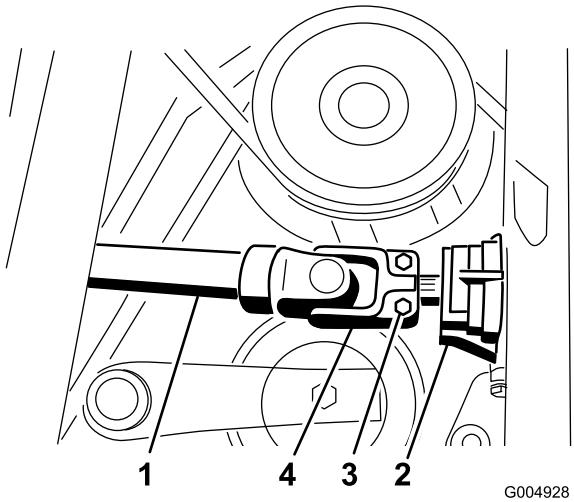

Figure 11
7. Slide the drive shaft onto the gearbox shaft (Figure 11). Install the roll pin and torque the bolts to 20-25 N·m (175-225 in-lb).